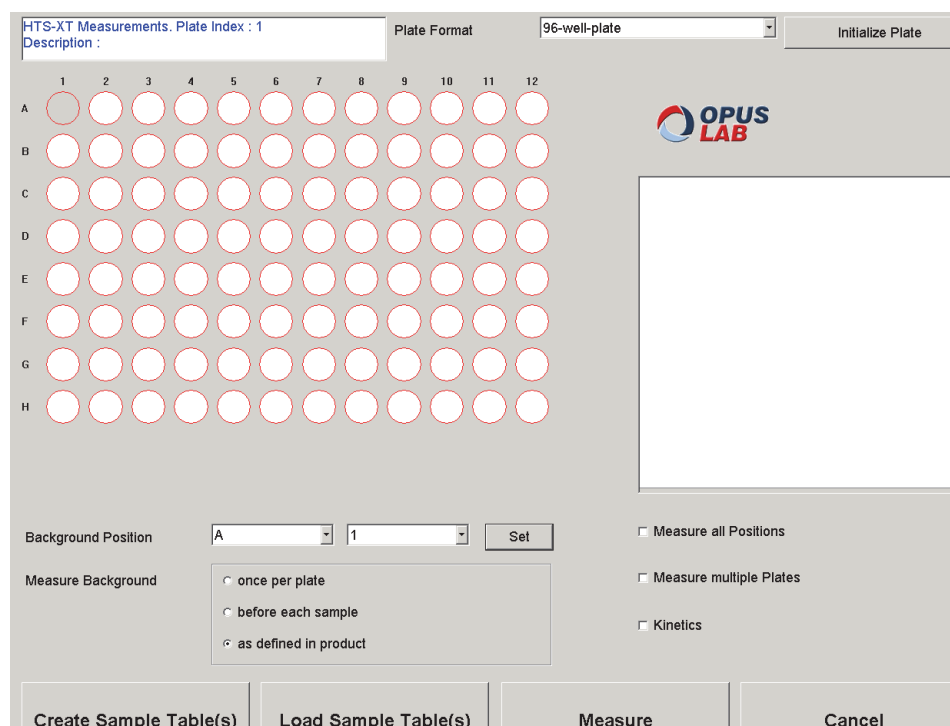

Figure 102: Define microtiter format and measurement positions
- 3) Click the *HTS-XT* button. Another dialog opens (figure 102).